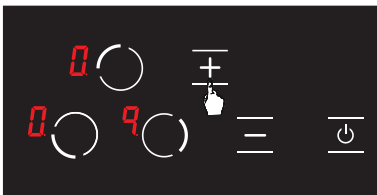

Figure 12
2. Using the **+** key, set the cooking level of the relevant hob as **9**. (See Fig. 12)